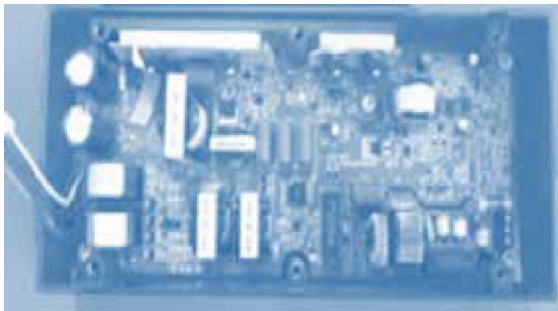

Fig. 6.27: PCB
Step 2. The driver PCB is placed properly inside the PSU cover and its screw is tightened with the help of washers. It is shown in Figure 6.27.